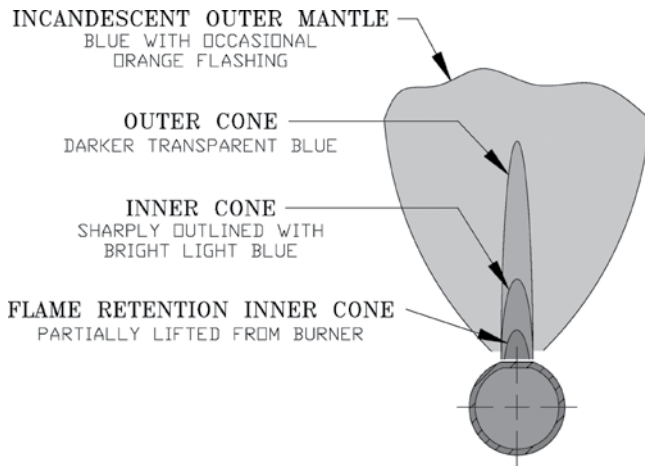

Figure 20: Main Burner Flame
I. Check main burner flame. See Figure 20. Flame should have clearly defined inner cone with no yellow tipping. Orange-yellow streaks should not be confused with true yellow tipping.
2. Intermittent Ignition (EI). Disconnect sensor cable from Terminal 4 SENSE. Gas valve should close and pilot and main burners should extinguish.